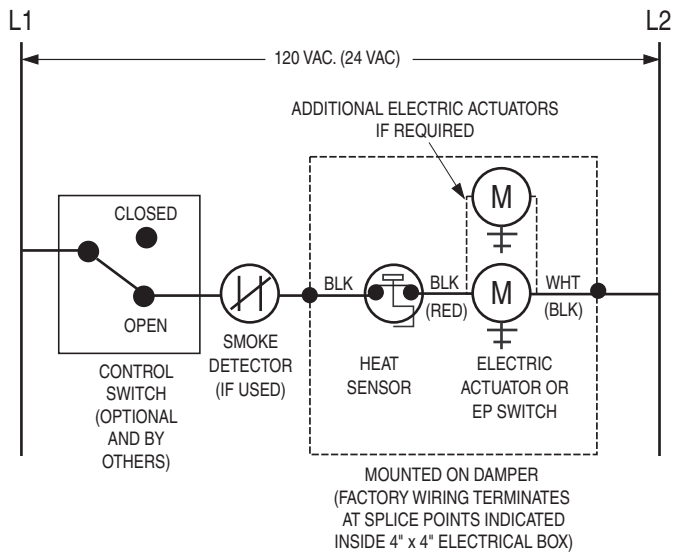

Figure 1. ERL Wiring
4. **Damper/sleeve attachment:** Damper shall be secured to sleeve with 1/4" (6) long welds, 3/16" (4.76) steel rivets, 1/4" (6.35) dia. bolts and nuts, #8 sheet metal screws, or 3/16" (4.76) dia. buttonloks on both sides at 6" (152) on center and a maximum of 4" (102) from the corners of the damper on all four sides. For field assembled sleeves, the inner dimensions of the sleeve shall be equal to the outer dimensions of the damper. All joints between the damper and the sleeve shall be sealed with Dow-Corning 732 or G.E. RTV108 silicone sealant on one side only.
5. **Inner Retaining angles** shall be a minimum of 1 1/2" x 1 1/2" x 16 gauge (38 x 38 x 1.61). Secure the retaining angles to the sleeve with 1/2" (12.7) long welds, 1/4" (6.35) dia. bolts and nuts, 3/16" (4.76) dia. steel rivets or #8 sheet metal screws 8" (203) on center and 2" (51) maximum from corner of sleeve on all four sides. The retaining angles must lap the structural opening by 1" (25.4) minimum. Where the sleeve terminates at the wall, 2" (51) wide mounting angle tabs with a 3/4" (19) flange are fastened to the sleeve. Mounting tabs may be installed on top and bottom, or sides, or a combination of both. A steel grille frame with a minimum 1" (25) flange is then fastened to the mounting angle tabs with sheet metal screws.
- ERL (Electric Resettable Link):** Dampers are supplied with an electric thermostat-type temperature responsive device as standard. Refer to Figure 1 for wiring of the ERL. If dampers are ordered with a pneumatic actuator and ERL, an EP switch is required with an appropriate electric power circuit to allow the ERL to control the pneumatic actuator.